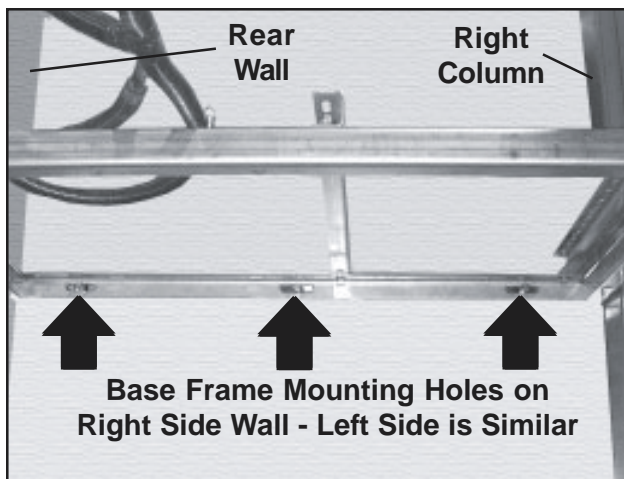

Figure 2. Base Frame Mounting Holes in Side Wall
5. Mark the locations of the twelve mounting holes on the side and rear walls of the cubicle (Figures 2 & 3).